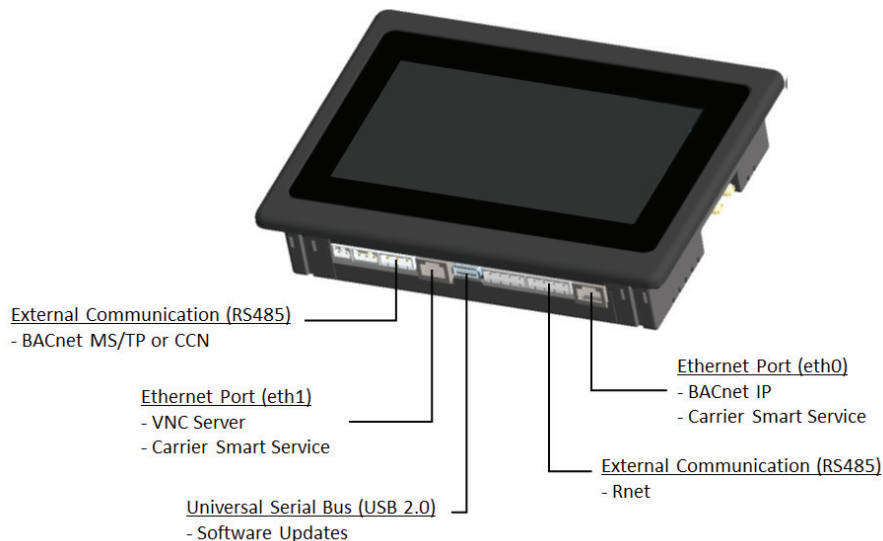

Fig. 62 — Carrier SmartVu™ Touchscreen Display Interface and Connections
48V units are standard with BACnet Inernet Protocol (IP) communication using Ethernet. The cabling for this is standard CAT 5 (minimum) cable with RJ45 connector. See Fig. 62 for Ethernet port locations. See Table 19 for ethernet addresses.
The SmartVu touchscreen display is the primary method of interfacing with the controls for set up and equipment start-up. The touchscreen is a capacitive 7 in. LCD that can be activated with a finger, touch compatible gloves, or stylus. Refer to Fig. 62 for display layout and port locations.
The SmartVu controls can be accessed using a hardwired ethernet connection at ethernet port 0 (on the bottom right side of the touchscreen display) and a VNC Viewer, such as RealVNC. Refer to Fig. 62 (SmartVu touchscreen display) for ethernet port 0 port locations. See Table 19 for default IP addresses ethernet port 0.